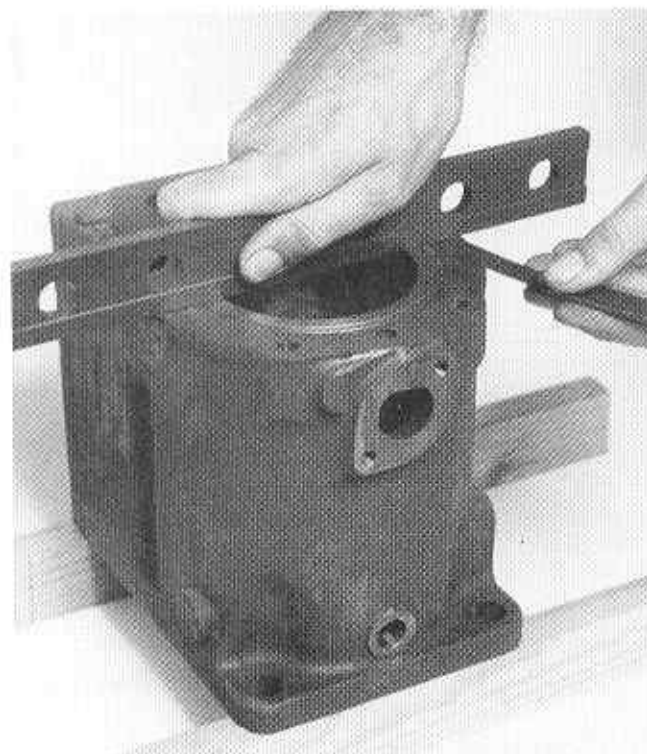

Figure 5.4 Checking the Cylinder Liner Protrusion
- (1) Clean all joint faces ensuring that the liner register in the top of the cylinder block is clean and undamaged.
- (2) Stand the cylinder block on two pieces of wood, making sure they are clear of the bore.
- (3) Lightly lubricate a new joint ring and place it in the groove in the liner.
- (4) Push the liner into the cylinder by hand. Ensure that the liner enters the block squarely to avoid damage to the ring.
- (5) Check the liner stands proud of the top face of the cylinder block by 0.267 to 0.394 mm (0.0105 to 0.0155 in.). The protrusion should be checked in various positions around the upper face of the block as shown in Figure 5.4. If necessary skim the cylinder block to achieve this figure.